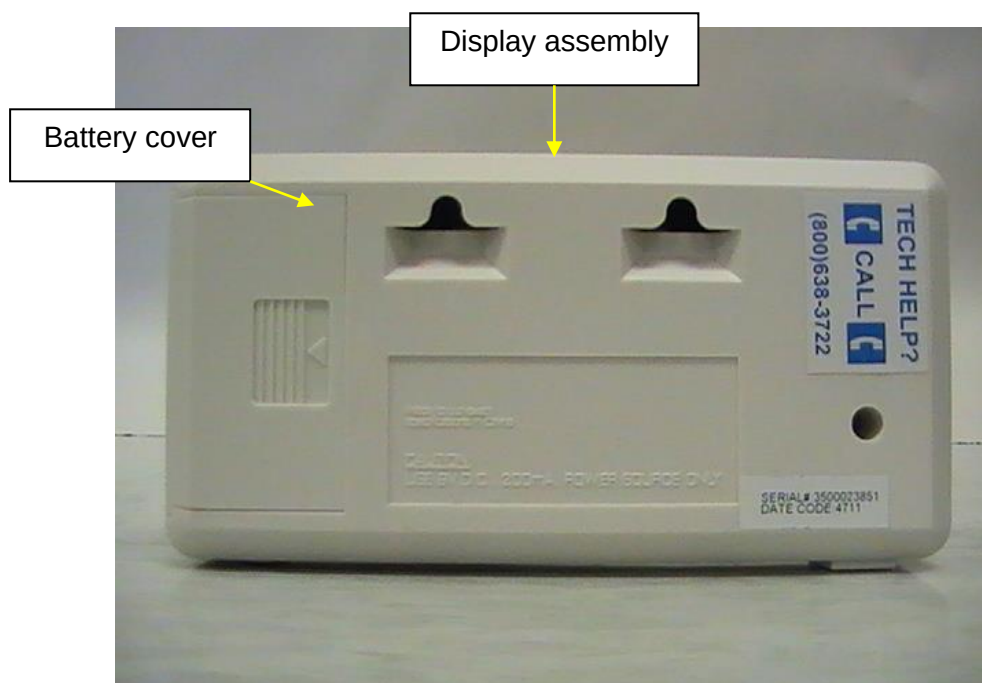

Figure 5
2. Remove the battery cover on the side of the display assembly by sliding the battery cover out (see Figure 5 on page 13).
2. Place battery into the battery holder (see Figure 5 on page 13).